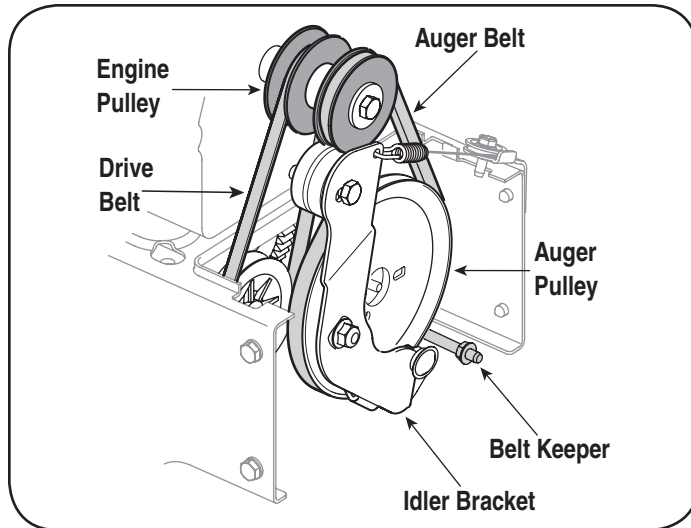

Figure 19
2. Slip the front auger belt off of the engine pulley, pushing it forward and rolling in off of the pulley. See Figure 19.
5. Place the new drive belt into the groove on the engine pulley. See Figure 19.